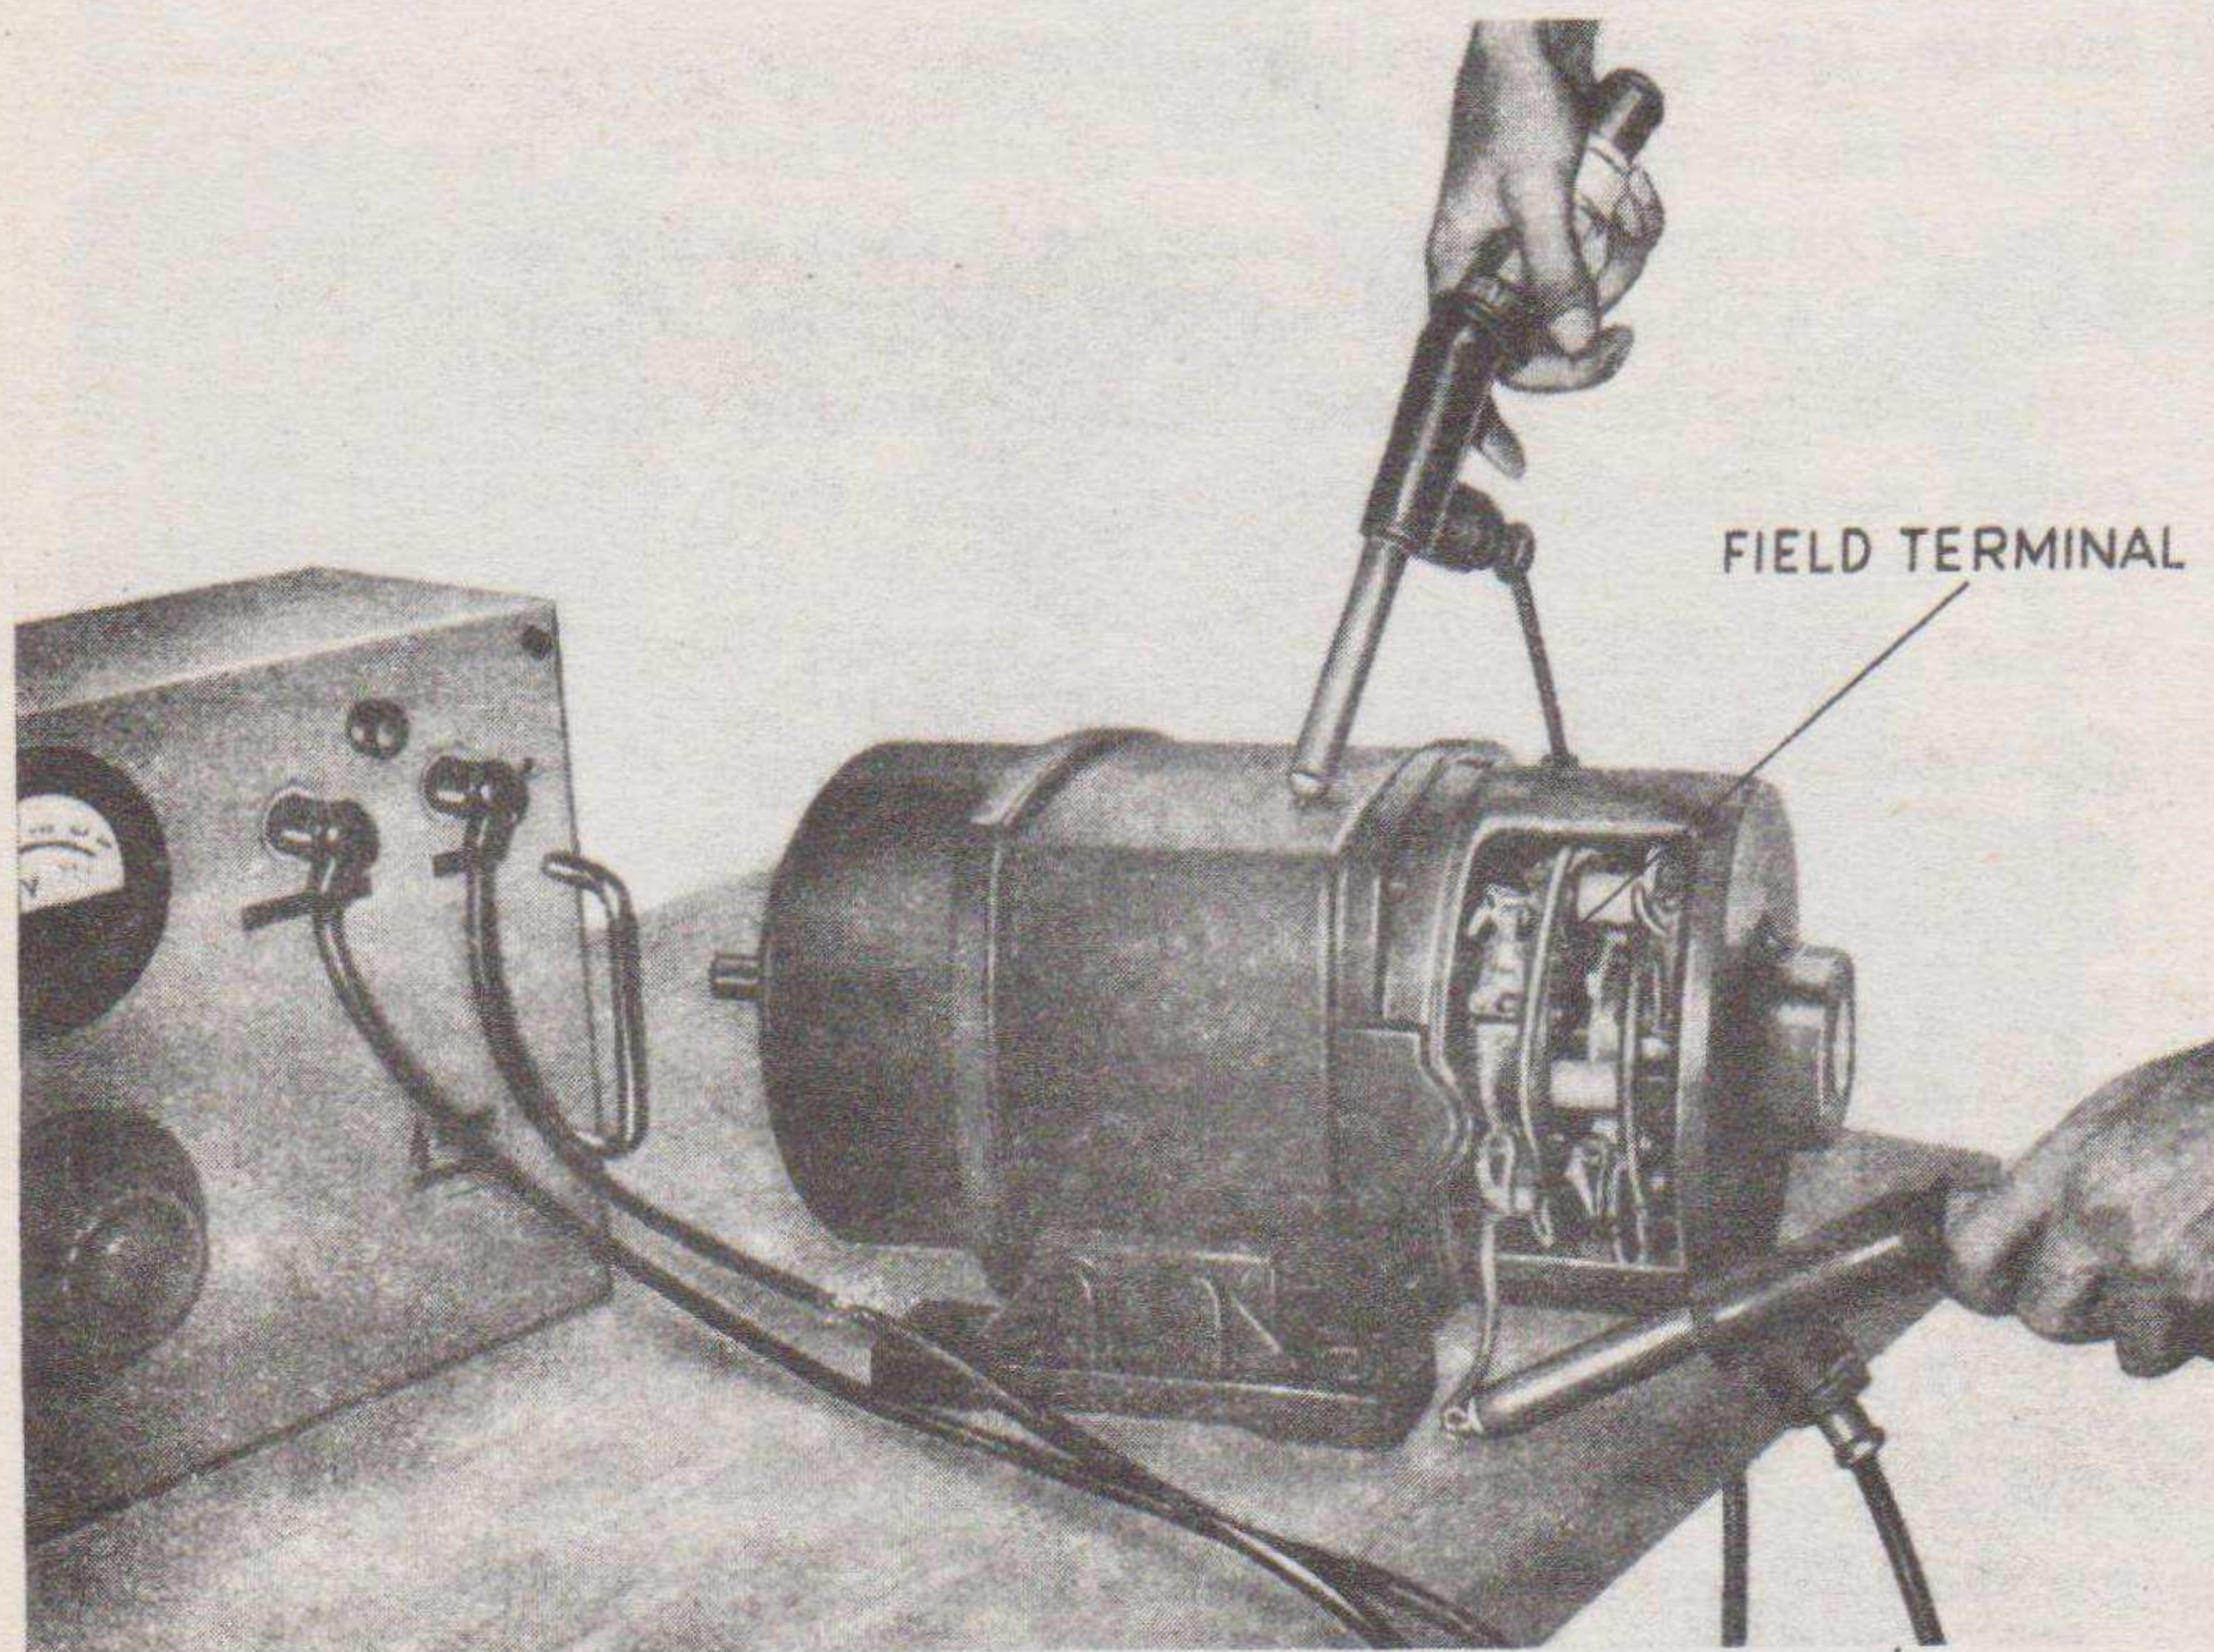

Figure 27. Testing field winding for ground.
- (2) *Grounded circuit.* Fig. 27. To determine whether the field circuit is grounded, disconnect both field leads from the brushes and connect a continuity tester between one lead and the field frame. If current flows, the field circuit is grounded.